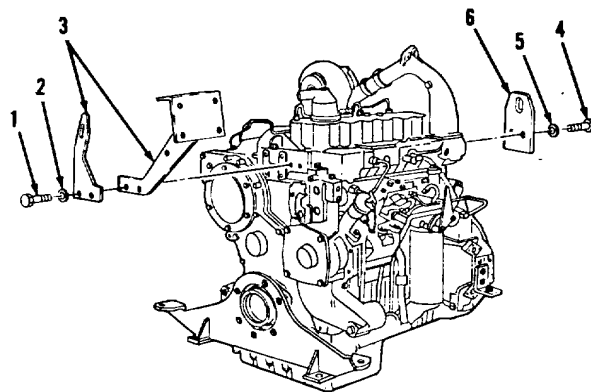

Figure 3-11.
7. Install support (9) and two bolts (10) to bottom, rear of engine.
8. Install bolt (7) and nut (8) to support (9). Bolt (7) must be installed to extend 0.118 inch below lower edge of support (9).
9. Install plate (6), two washers (5) and bolts (4, Figure 3-11) to top, rear of engine.
10. Install two plates (3), washers (2) and bolts (1) to top, front of engine.